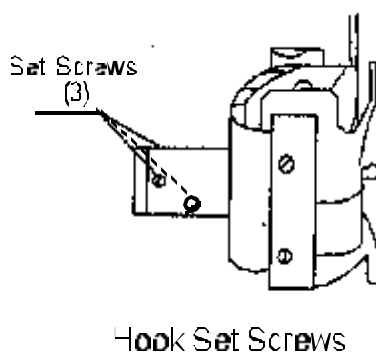

Figure 6
40. **Using** a needle screwdriver, **loosen** two set screws **furthest** from hook point leaving the set screw closest to hook point tight. (If Hook Assembly was removed as instructed in Section B, two set screws are loose already) See Figure 6.